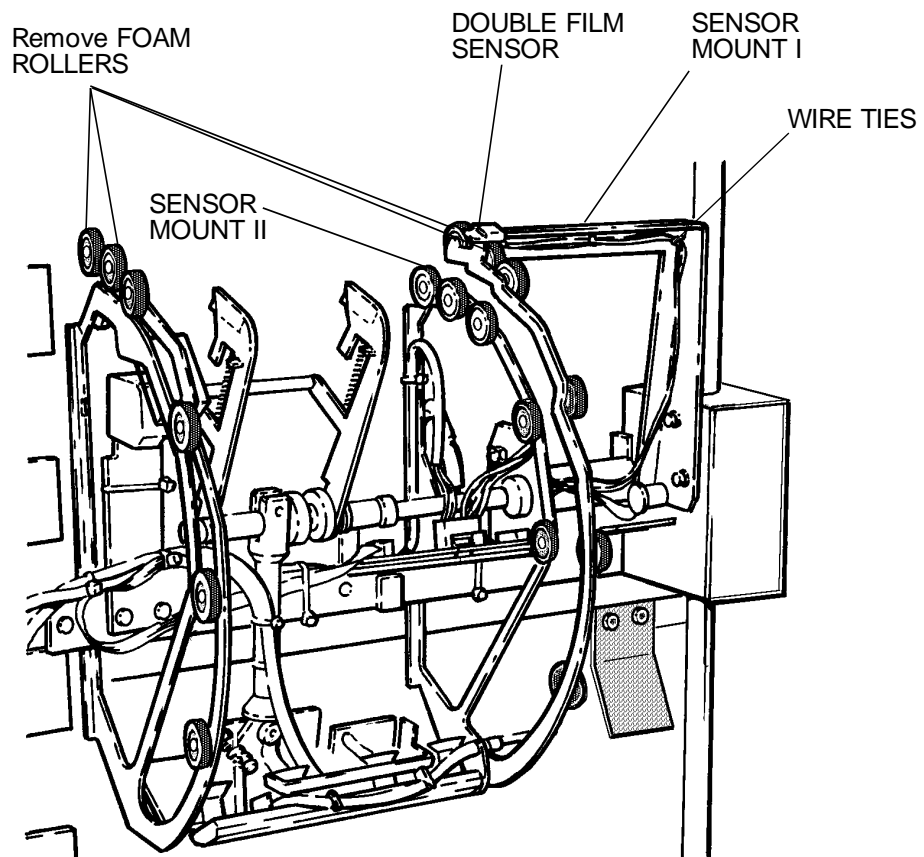

figure 5
19. Remove the WIRE TIES. See figure 5.